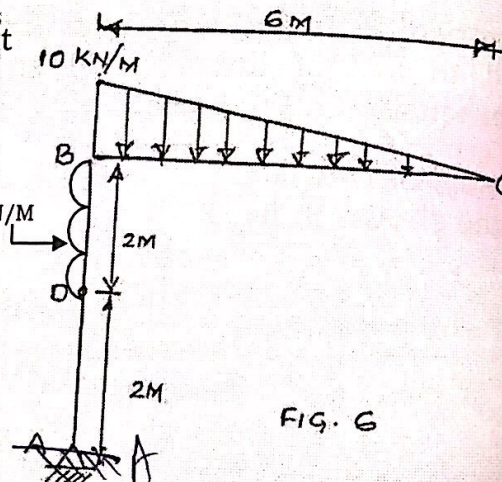

FIG. 6
Q.4 a) Find the rotation at Point B'. Ref. Fig. 6. Using unit load method or any other energy method.